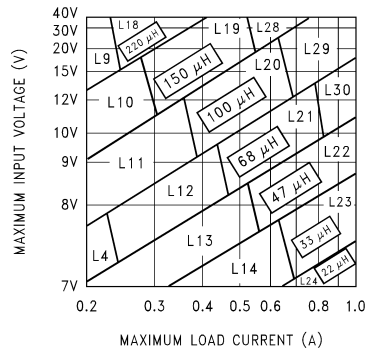
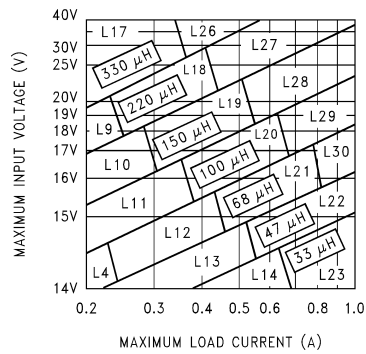

Figure 10. LM2598-5.0
Figure 11. LM2598-12
A. Select the correct inductor value selection guide from Figures Figure 9 , Figure 10 , or Figure 11 (Output voltages of 3.3V, 5V, or 12V respectively.) For all other voltages, see the design procedure for the adjustable version.	A. Use the inductor selection guide for the 5V version shown in Figure 10 .
B. From the inductor value selection guide, identify the inductance region intersected by the Maximum Input Voltage line and the Maximum Load Current line. Each region is identified by an inductance value and an inductor code (LXX).	B. From the inductor value selection guide shown in Figure 10 , the inductance region intersected by the 12V horizontal line and the 1A vertical line is 68 μ H, and the inductor code is L30.